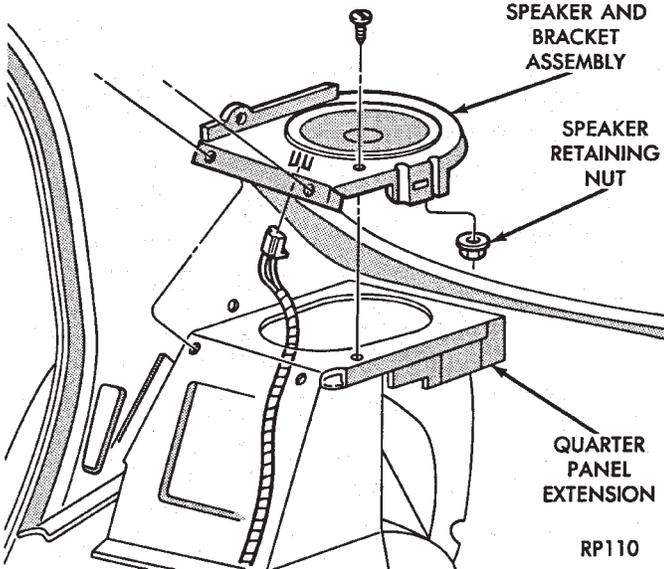

Fig. 31 Rear Mounted Speaker—AP Body
- (2) Reaching up underneath quarter panel extension, remove four speaker retaining nuts (Fig. 31).
- (3) Move speaker away from mounting bracket and disconnect wiring.